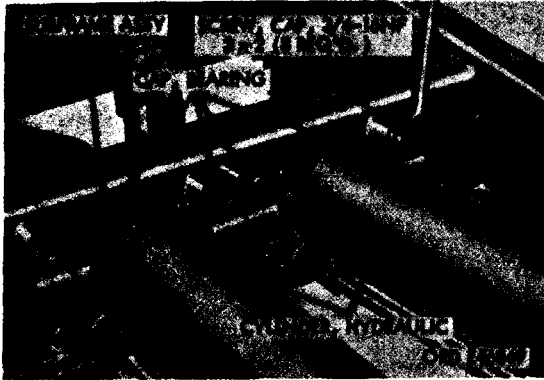

Figure 80. Removing bearing cap
- (d) Remove the two cap screws and lockwashers from each bearing cap (fig. 80). Remove two bearing caps from each hydraulic cylinder and remove hydraulic cylinder from the subframe assembly.